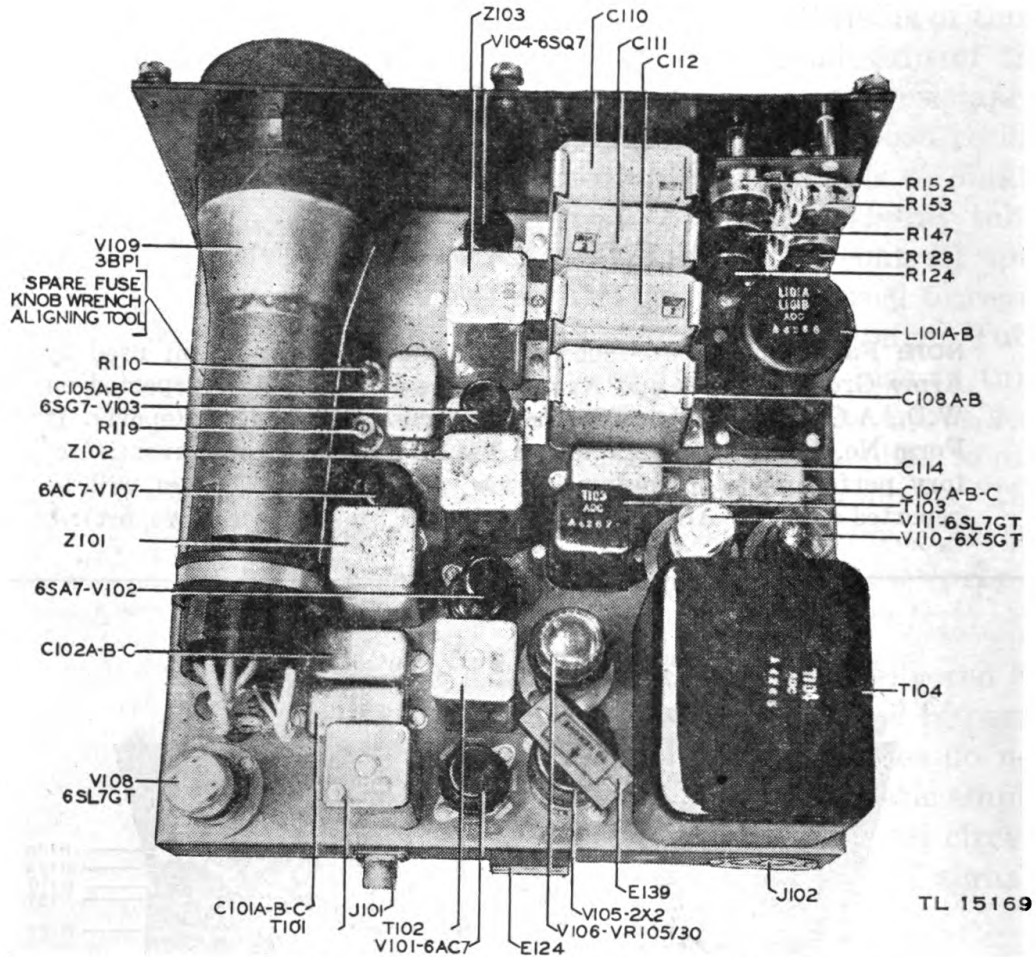

Figure 21. Panoramic Adaptor BC-1032-B, top view.¹
a. I-f Gain Control. The i-f gain control on the B models cannot be adjusted from the front panel since it is located on the chassis directly in front of the reactor pad control. (Refer to figure 21; the i-f gain control is marked R110 and the reactor pad is marked R119.)